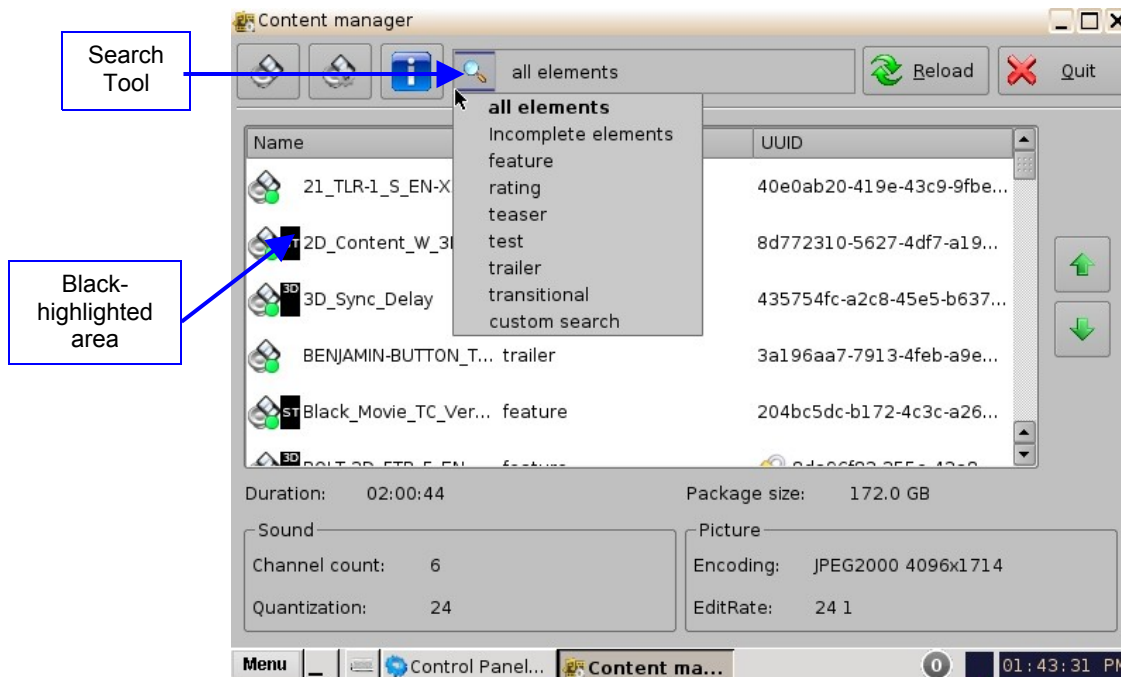

Figure 76: Search Tool
The Content Manager allows the user to search for CPLs, in the Composition Playlist tab, using the search field located on the top portion of the window (Figure 76). The Search Tool allows the user to sort the CPLs based on the following elements (or perform a Custom Search, which is not case-sensitive, by entering a search pattern):
Note: The black-highlighted area (Figure 76) indicates whether the content is 3D or has subtitles (ST).